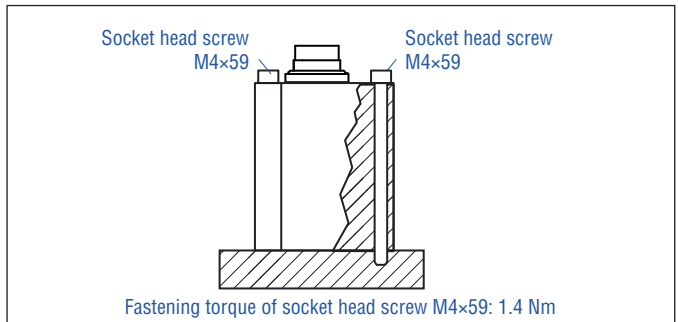

Fig. 21: Mounting with socket head screws M4x59
- Mount the sensor electronics housing by means of 3 non-magnetic socket head screws M4x59. Fastening torque: 1.4 Nm (Fig. 21). Secure the screws, e.g. using Loctite 243, before re-installing.